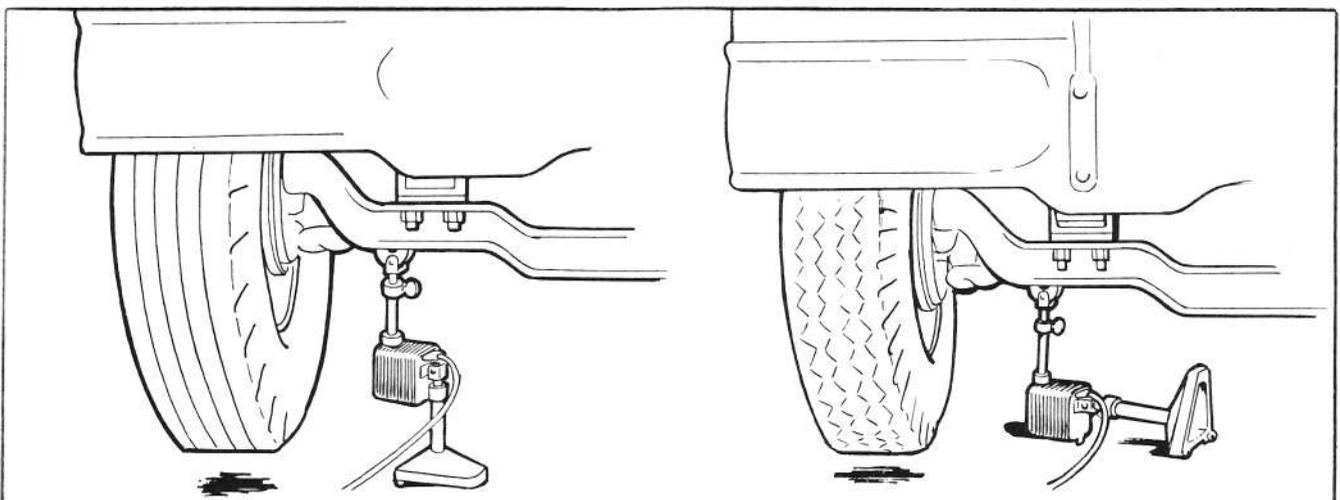

FIG. 1 POSITION PICK-UP FOR HIGH OR LOW AXLE
4. Position pick-up under front axle. Adjust pick-up arm length until magnet contacts clean, flat surface under axle as close to wheel as possible (see Figure 1).
See Figure 1 for pick-up positioning and adjustment for either high or low axles.